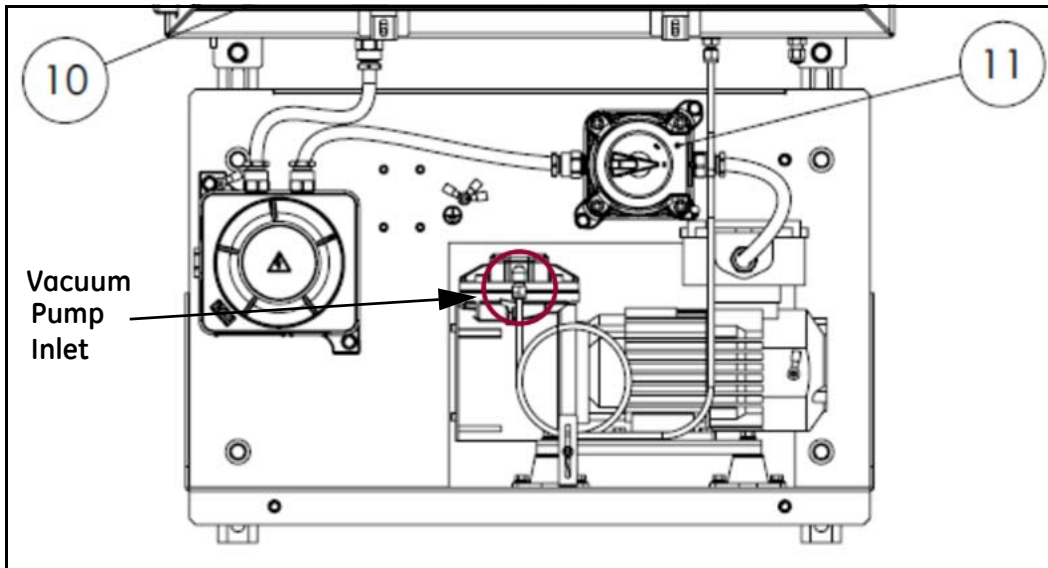

Figure 18: Vacuum Pump Inlet
2. Disconnect vacuum pump inlet from sample system (see Figure 18).